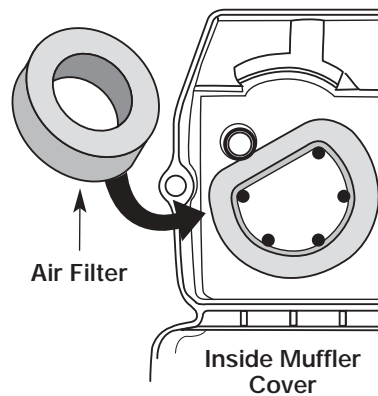

Figure 23
2. Turn cover over and look inside to locate the air filter. Remove the air filter from inside the air filter/muffler cover. See Figure 23.
6. Replace the air filter inside the air filter/muffler cover. See Figure 23.